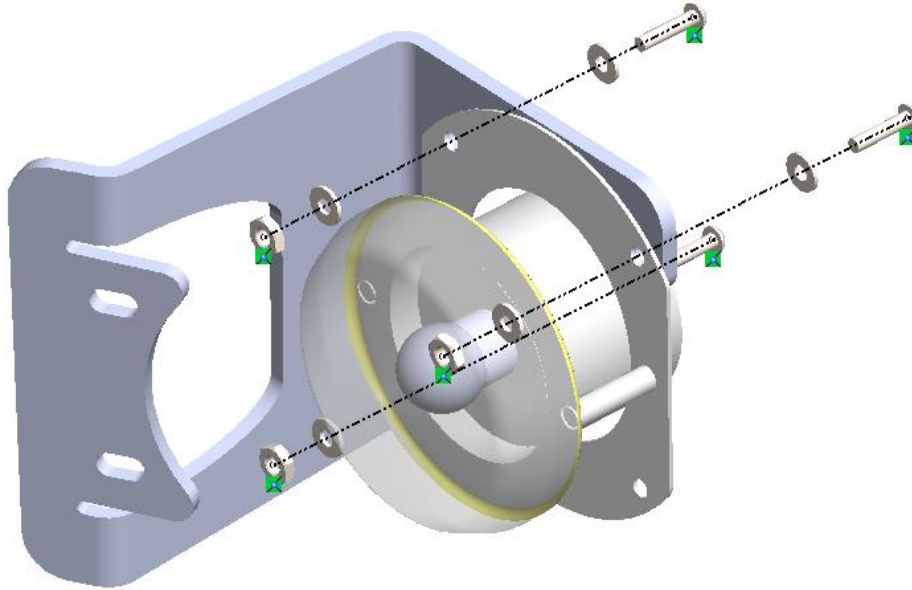

Figure 11a
- B. Trace the wiring harness behind the headlight assembly and remove the turn signal light. On the back you should find four wires running from it to the harness. At this point follow the wiring diagram below. It is strongly recommended a multimeter or its equivalent is used to confirm wiring before splicing (Ref fig. 11a).